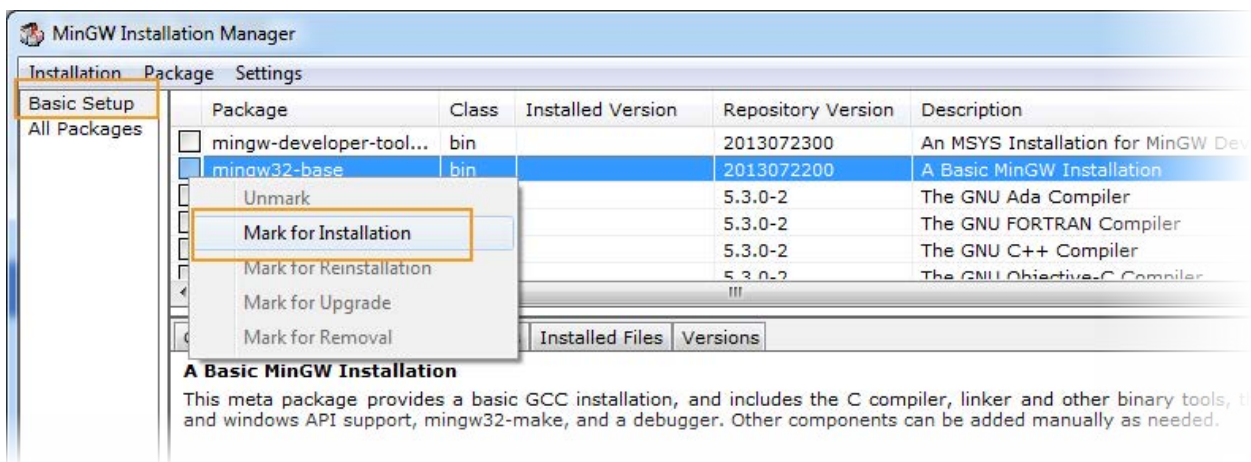

Figure 4. Basic setup on MinGW Installation Manager
- 5) Select **msys-base** and **mingw32-base** from **Basic Setup** package list, and right click to bring up the menu options. Click **Mark for Installation** from the menu (see Figure 4).